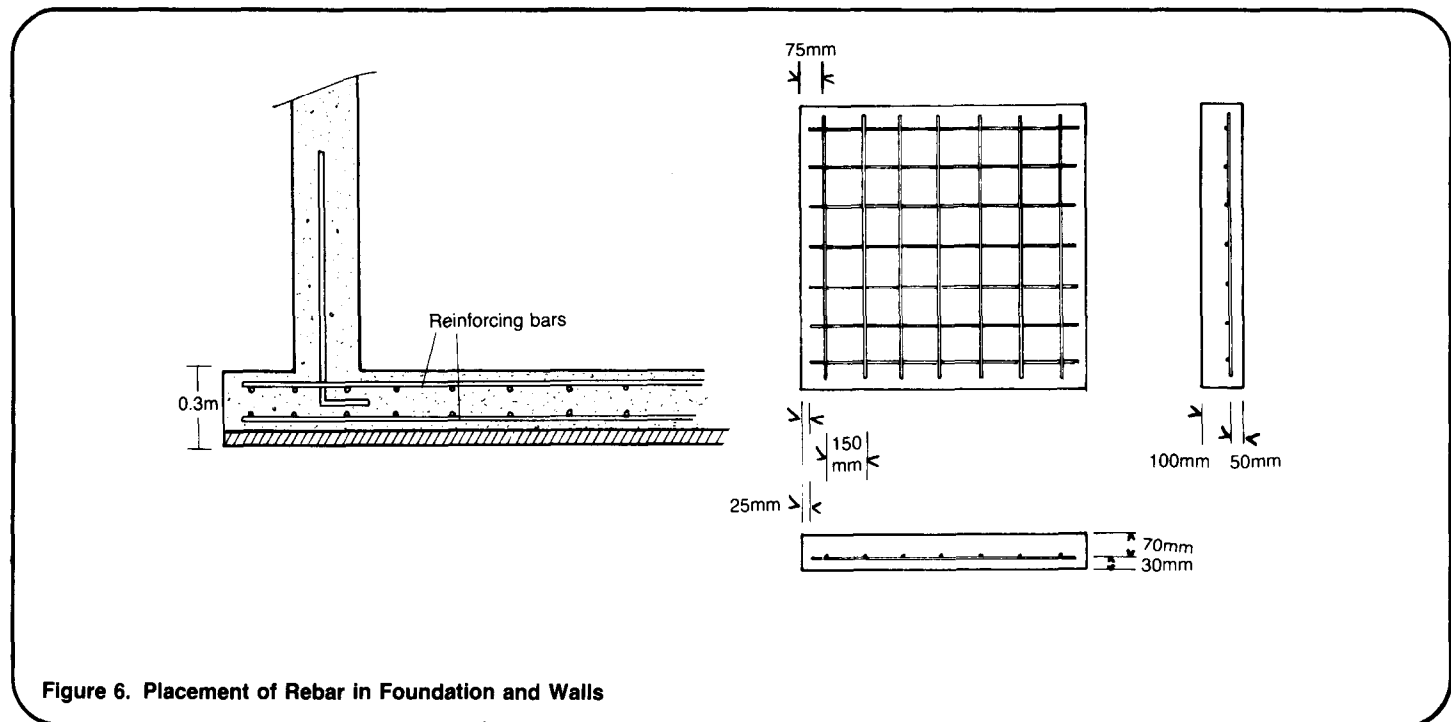

Figure 6. Placement of Rebar in Foundation and Walls
2. Set up the reinforcing rod as shown in Figure 6. A raft foundation should be used for the structure. Install the rod so that a short length extends into the wall section. This is done by bending the rod at the base where the wall meets the floor. Before pouring the concrete: